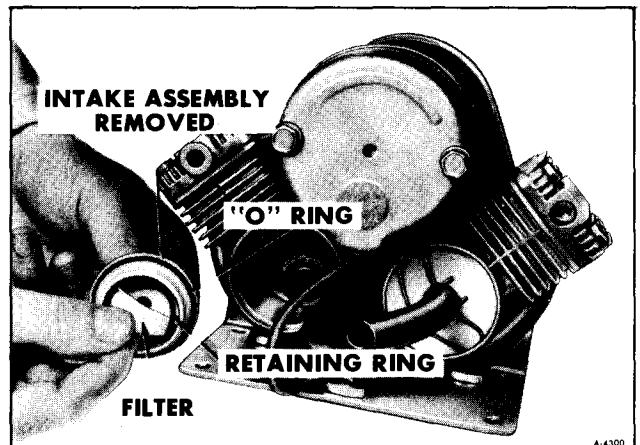
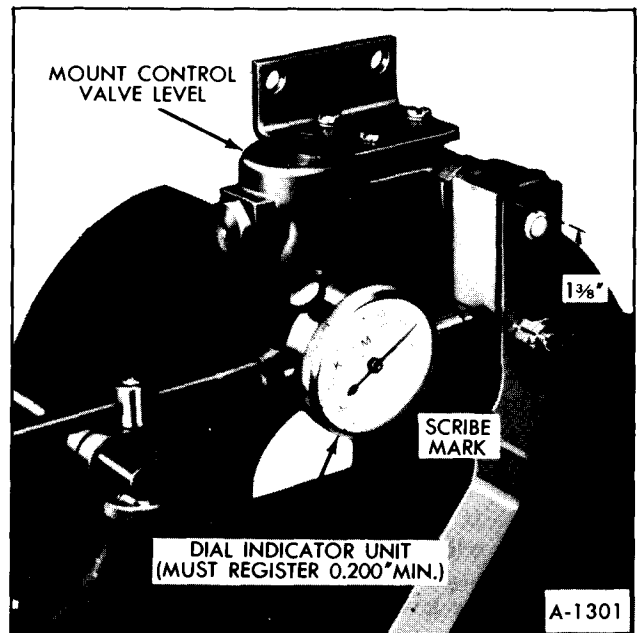
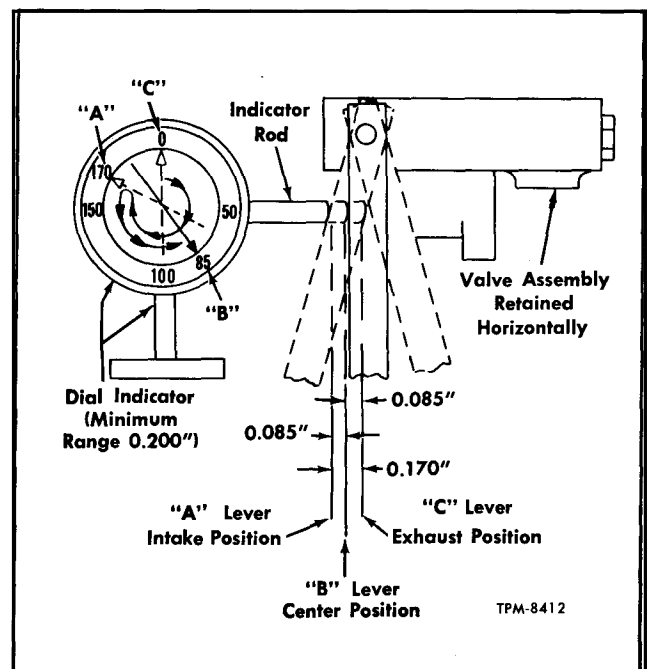

Figure 42—Air Filter Removal
Figure 51—Dial Indicator Properly Installed
Figure 52—Locating Valve Overtravel Lever Center Position
4. Pinch the air filter between the thumb and forefinger and remove it from behind the retaining ring still in place. Replace the filter or clean with soap and water and squeeze dry. Install the air filter through the retaining ring and work into place with light finger pressure (figure 42).
4. Referring to Figure 51, scribe a line 1-3/8 inch from plug end of overtravel lever control body.
8. Locate dial indicator in position as shown in Figure 51. Move overtravel lever to full air exhaust position — **TOP OF DELAY PISTON FLUSH WITH TOP OF BORE** - without overtraveling (position "C," figure 52). Relocate indicator push rod to just contact 1-3/8-inch mark on control body and reset indicator dial to zero at this point (position "C", figure 42).
9. Move overtravel lever to full air intake position without overtraveling (position "A", figure 52) (delay piston at bottom of bore). Take indicator reading which may vary from 0.160" to 0.190".
11. Divide the total travel dimension by two (example: $0.170" \div 2 = 0.085"$), then move overtravel lever back this amount (0.085") to the center (position "B," figure 52).